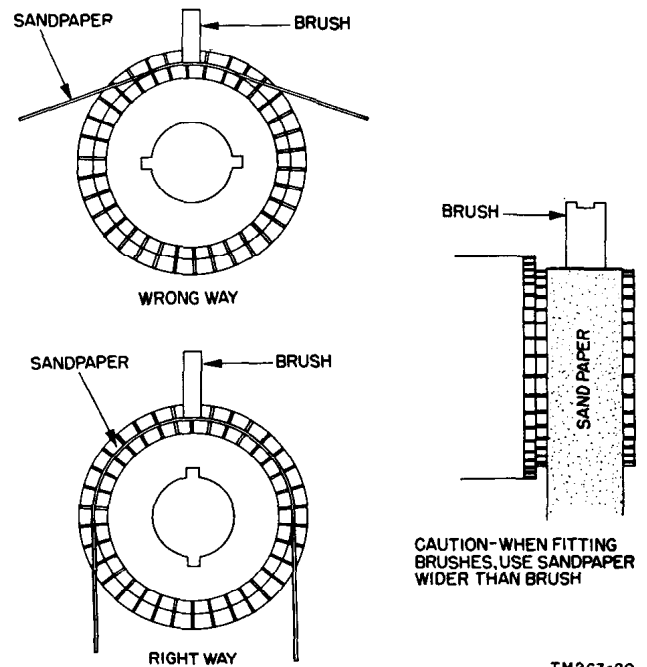

Figure 149. Correct and incorrect methods of fitting brush to commutator.
c. Use two strips of No. 00 sandpaper about 5 inches long and almost as wide as the hv and lv armatures. Wrap the strip of sandpaper around the commutator *with the sand surface out*. Insert the brushes in the brush holders, and replace the brush caps over the brush spring so that the brushes are pressed tightly against the sandpaper. Hold the ends of the sandpaper so as to stretch it tightly against the commutator (fig. 149). Rotate the armature back and forth until the full width of the brush face is making contact against the sandpaper, as indicated by the sanding marks or scratches on the contact surface of the brush when the brush is removed for inspection.